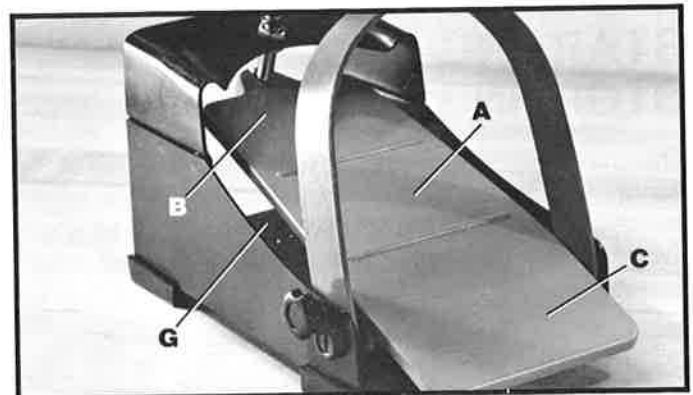
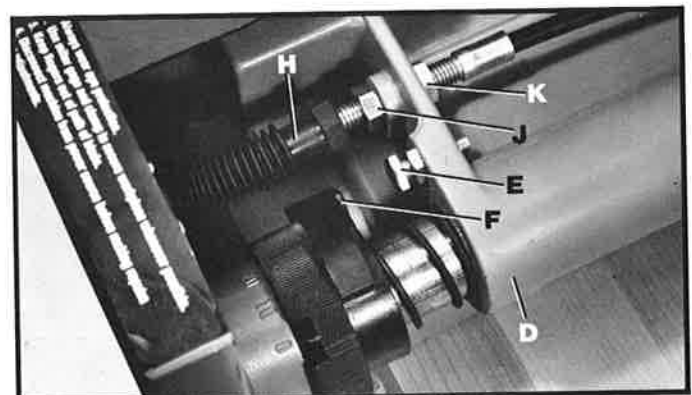

Fig. 29
Fig. 30
The Foot Pedal (A) Fig. 29, controls the lateral movement of the biscuit cutter. Pressing down on the pedal (A) moves the cutter out to make the cut and releasing pedal (A) retracts the cutter.
When the foot pedal (A) Fig. 29, is depressed the bracket (D) Fig. 30, moves forward until the adjusting screw (E) contacts stop (F). When the machine is in this position (cutter exposed on the front of the fence) the boss located directly underneath the top of the foot pedal (B) Fig. 29, should be between 1/4 and 1/2 inch away from bottoming on bottom plate (G) Fig. 29. If it is not, an adjustment to the cable can be made by sliding back sleeve (H) Fig. 30, and adjusting the cable by tightening and loosening the two adjusting nuts (J) and (K) Fig. 30.